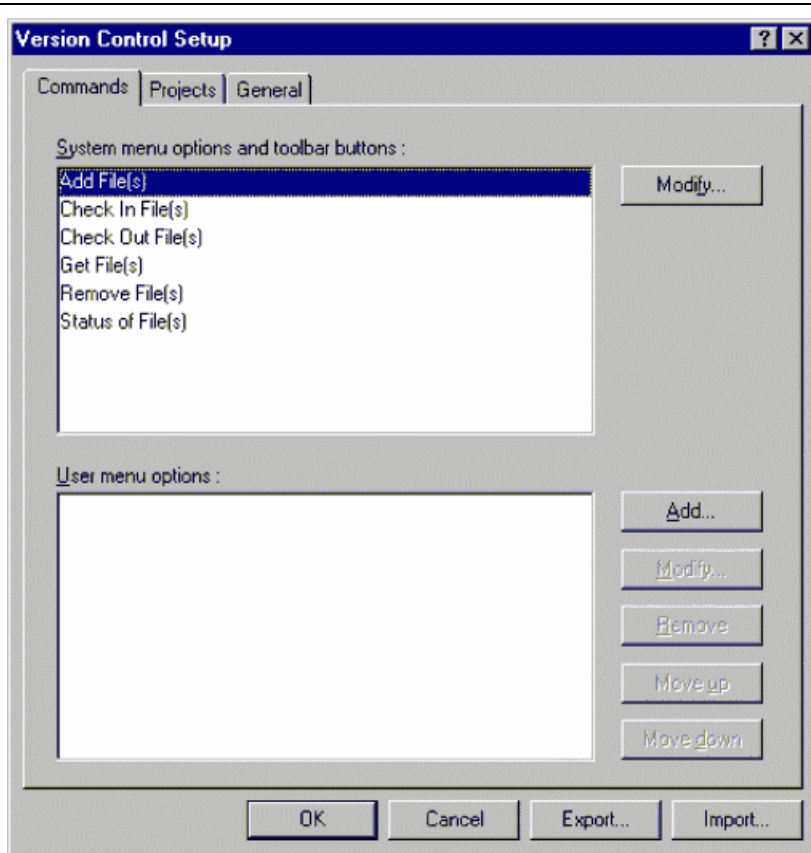
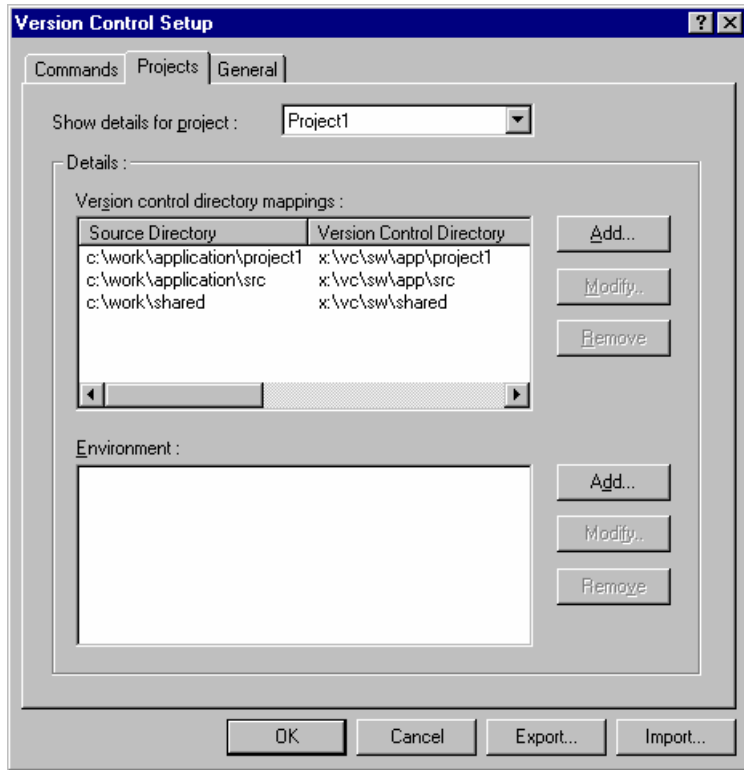

Figure 8.1: Version Control Setup Dialog Commands Tab
Figure 8.7: Version Control Setup Dialog Projects Tab
The custom version control support allows you the most flexibility in specifying how a version control system is to be used. To configure it, select [**Version Control->Configure...**]. The “Version Control Setup” dialog will be displayed (figure 8.1).
1. Select [Version Control->Configure...]. The dialog shown in figure 8.1 will be displayed.
1. Select [**V**ersion **C**ontrol->**C**onfigure...]. The dialog shown in figure 8.1 will be displayed.
1. Select [**Version Control->Configure...**]. The dialog shown in figure 8.1 will be displayed.
However, when executed, this command can only ever get the file MAIN.C. To resolve this problem, HEW uses a system of placeholders and directory mappings. The latter tell the HEW which "working" directories (i.e. where source files are being worked on) map to which "controlled" directories (i.e. where the source files are stored in the version control system). Mappings between these two directory systems can be specified via the "Projects" tab of the "Version Control Setup" dialog (figure 8.7).
1. Select **[Version Control->Configure...]**. The dialog shown in figure 8.1 will be displayed. Select the "Projects" tab, and the dialog shown in figure 8.7 will be displayed.
1. Select [**Version Control->Configure...**]. The dialog shown in figure 8.1 will be displayed. Select the “Projects” tab, the dialog shown in figure 8.7 will be displayed.
Select the “Projects” tab of the “Version Control Setup” dialog to view the current settings (figure 8.7).